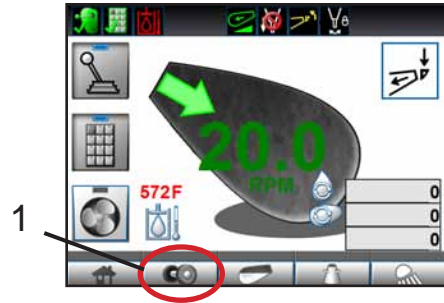

Figure 54
Auxiliary axles use an UP/DOWN switch (labeled PUSHER) to control the lower and lift function. The UP/DOWN switch is located on the digital control display in the cab (Figure 54).
2. Touch the AXLE function button on the bottom row of the display home screen (Figure 54, Item 1).